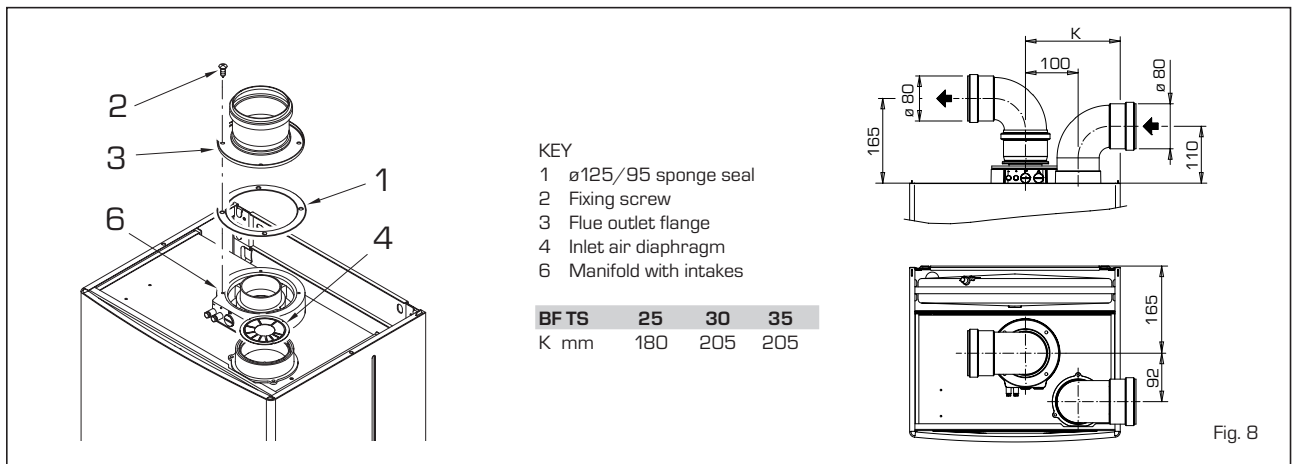

Fig. 8
2.8.1 Separate flue kit (fig. 8)
The separate flue kit code 8089904 is supplied with an intake diaphragm which must be used as shown in fig. 8/a, depend-